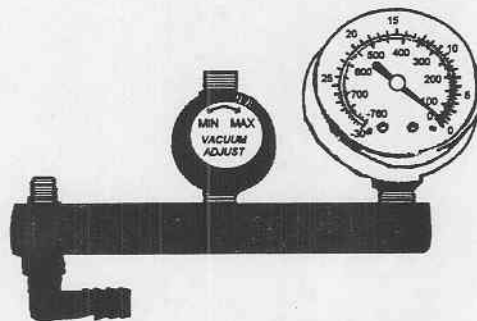

Figure 3-3. Vacuum adjust control.
- (6) Rotate the operating mode selector switch to the "BATTERY" position. Observe that the vacuum pump operates, the vacuum gauge needle indicator oscillates, and the green "POWER" indicator is illuminated.
- (7) Rotate the operating mode selector switch back to the "OFF/CHARGE" position.
- b. "VACUUM ADJUST" control (fig 3-3).